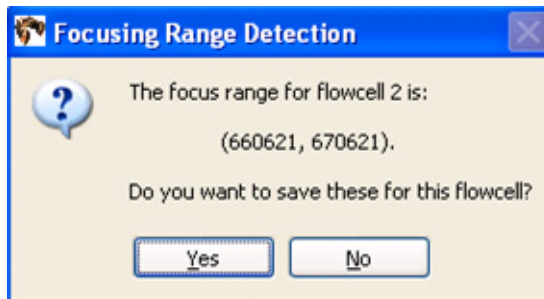

Figure 56 Confirm that you want to replace the local settings file.
5. When the Imager is done, a dialog appears (see Figure 56). Click **Yes** if you want to replace the values in the local settings file. Click **No** if you want the Imager to discard the newly calculated focus range.